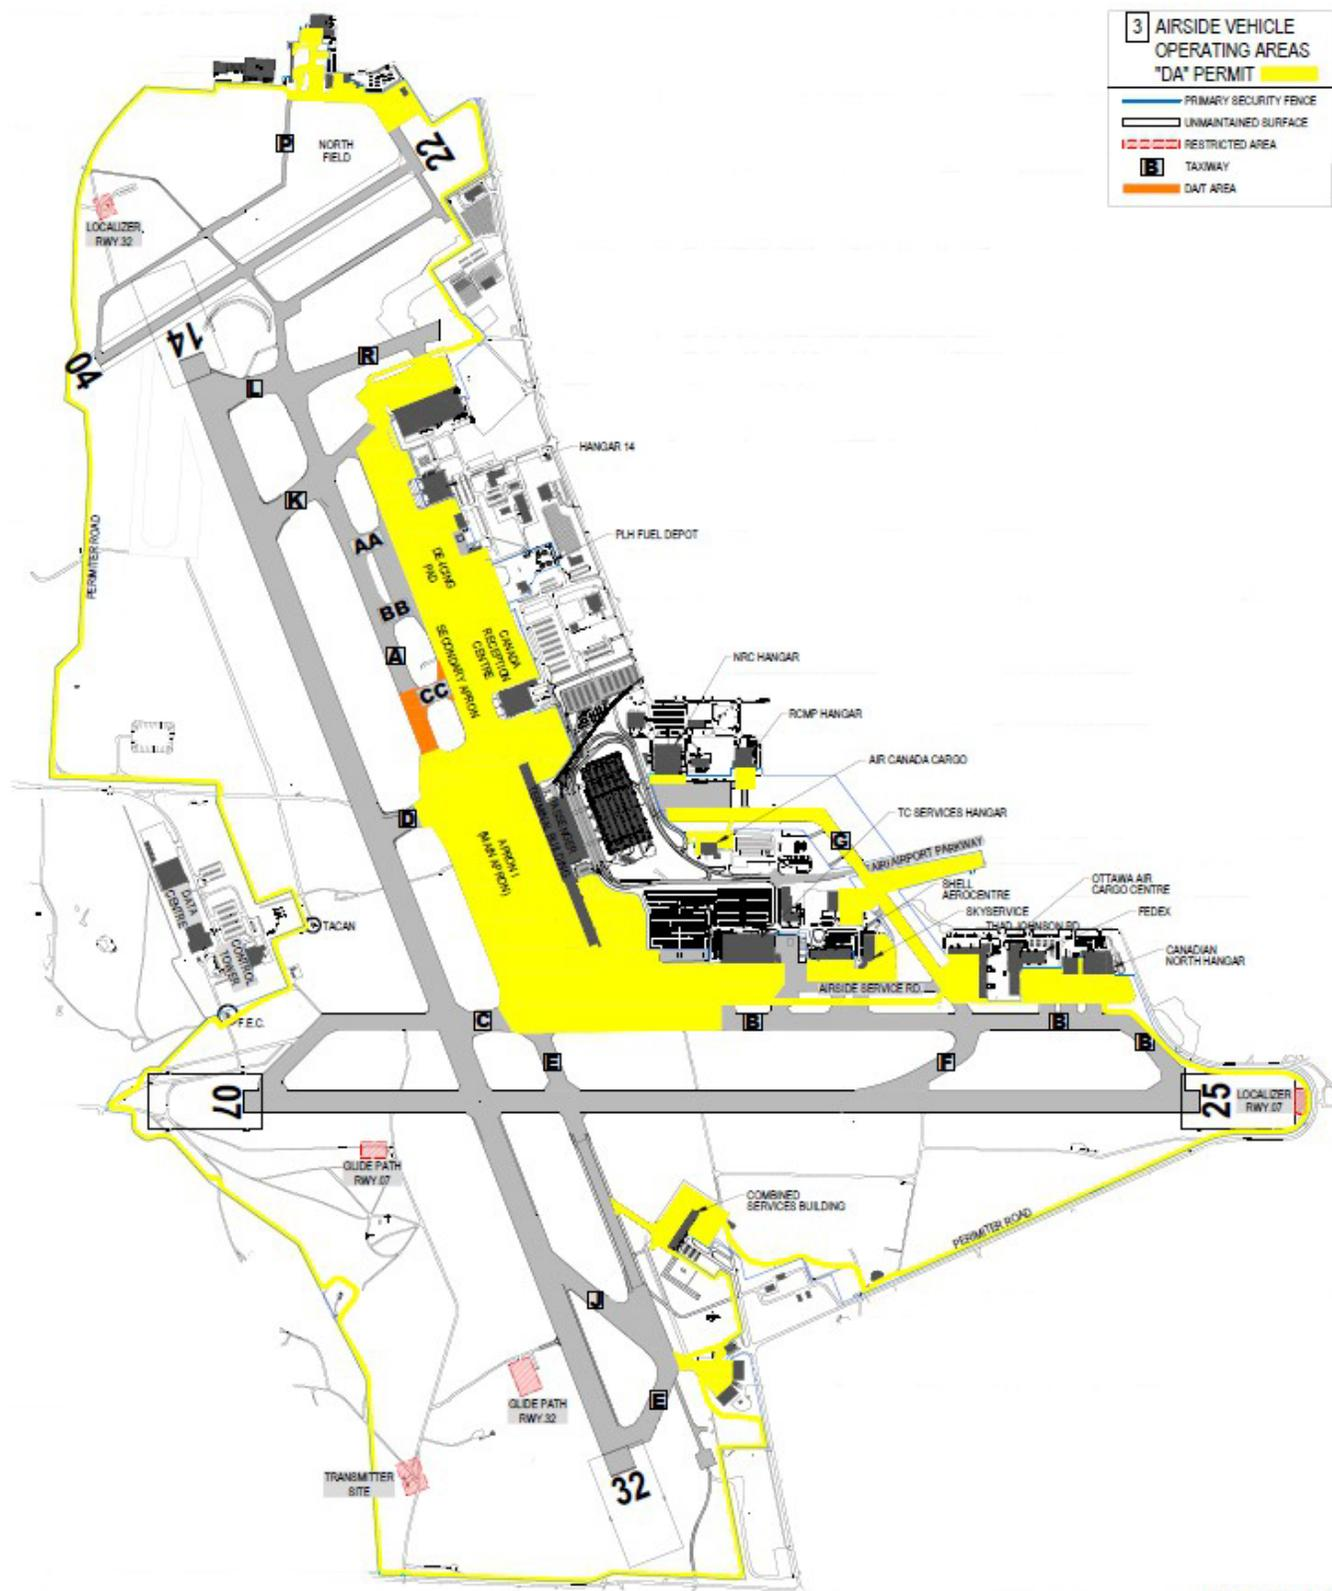

FIGURE 2.3
2. **AVOP-DA:** Commercial apron and support routes (Figure 2.3)